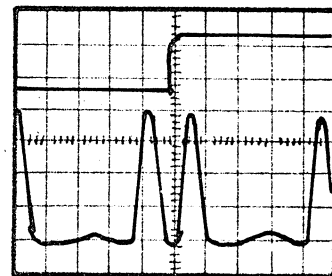

Fig. 8-12
- . The switching of the beginning - of - line sensor must take place in the middle of a carriage step (fig. 8.12)
- . Check that the rising edge of SWSOL falls half way between two waves of the MISTO signal (fig. 8.12)
- . Display on channel 1, of the oscilloscope, the SWSOL signal (TPO2) and on channel 2 the MISTO signal (TPO3) as shown in fig. 8.12
- . Manually execute some initializations checking that the rising edge of the SWSOL signal falls half way between 2 waves of the MISTO signal. (Fig. 8.12)
NOTE: For all SPPL models the concurrence shown in fig. 8.12 provides the adjustment result.
On ROSY 28 models, in order to determine the adjustment result, the concurrence shown in fig. 8.12 can occur both on the negative and positive maximum value